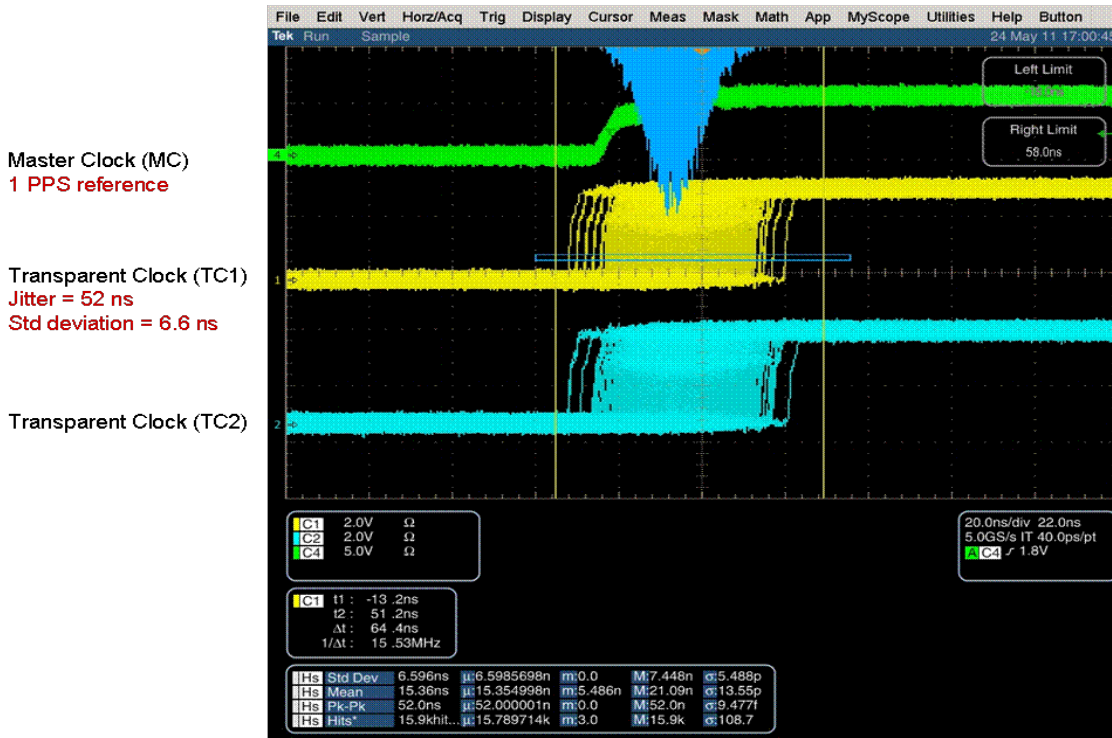

Figure 19 Sample 1 PPS Oscilloscope Capture
- A7. Typically, the 1 PPS signal from the Grandmaster or Master node is used as the trigger on channel one of the oscilloscope. Channel 2 is connected to the 1 PPS signal on one of the other KSZ8463 Evaluation boards. The 1 PPS signal is generated on the GPIO6 signal pin. If the oscilloscope has a persistence feature, it can be used to view accumulating past occurrences of the signal on channel two with respect to the 1 PPS signal on channel 1. Depending on the oscilloscope used, there is other statistical analysis that can be performed on the signals. Figure 19 illustrates an oscilloscope signal capture.